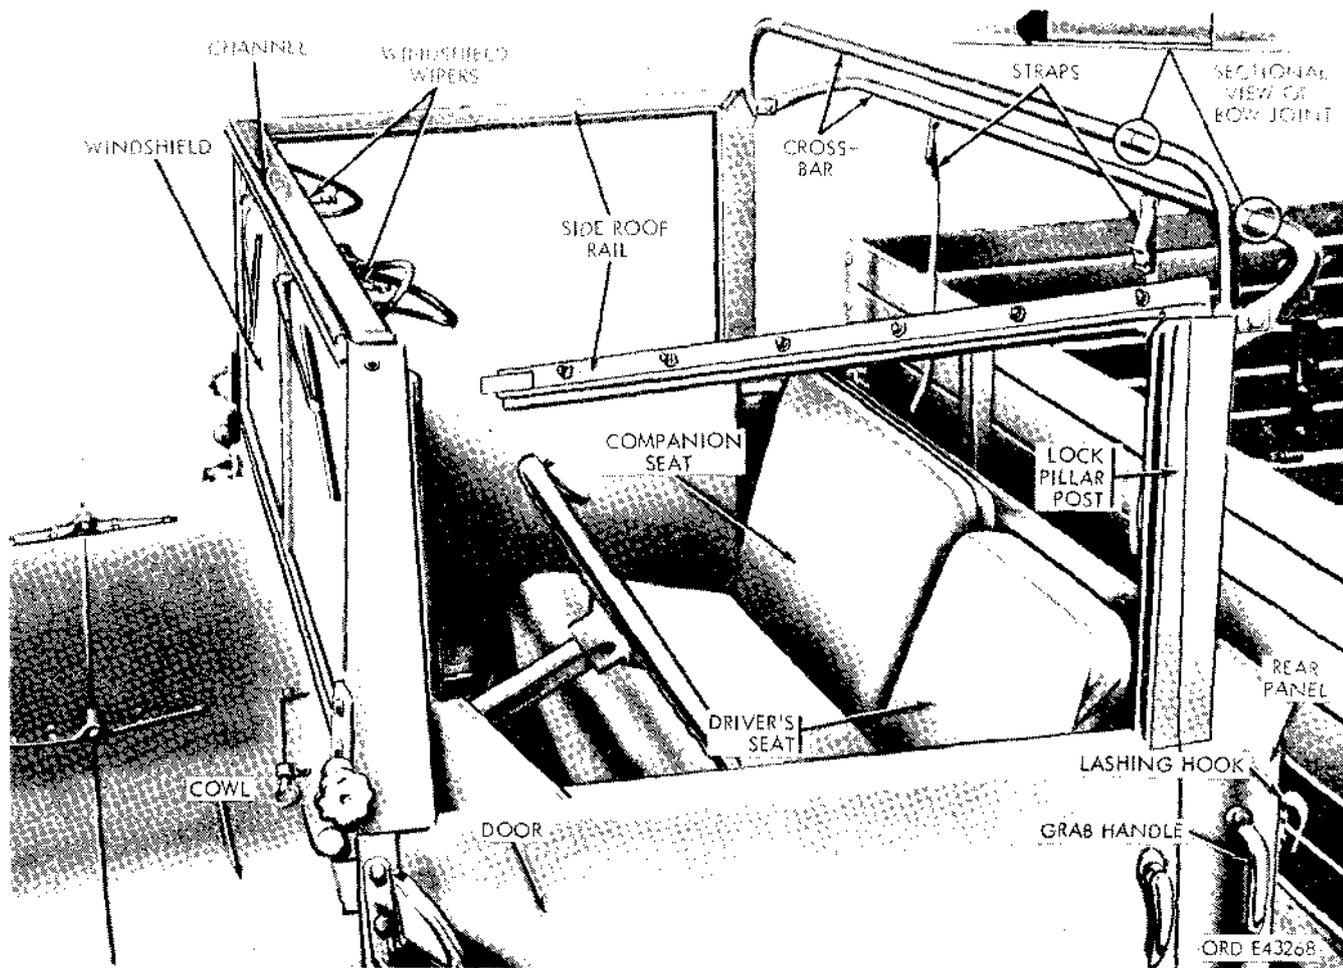

Figure 2-219. Cab with tarpaulin removed.
a. Removal (fig. 2-219).
- (1) Remove the cab top tarpaulin as described in TM 9-2320-211-10.
- (2) Disengage both cab roof rails from the windshield frame.
- (3) Turn the rails in and then down on the hinge at the lock pillar post.
- (4) Loosen the thumb screw at both pillar posts. Lift the pillar posts and bow assembly from sockets.
- (5) Remove the crossbars from the bows.
- (1) Strap the crossbars and pillar posts together with straps on the rear crossbar.
- (2) Stow the assembly in (1) above behind the cab seats.
c. Installation (fig. 2-219).
- (1) Insert the crossbars in bows so that the crossbar with straps is to the rear bow.
- (2) Position the pillar post assembly into sockets. Tighten the thumb screws on both sides.
- (3) Raise the cab roof rails and swing them around into position.
- (4) Engage the rail front ends into the upper corner slots of the windshield frame.
- (1) Disconnect the windshield wiper hose at the lower end of the wiper motor tubing.
- (2) Remove the eight nuts and bolts securing the windshield hinges to the cab.
- (3) Remove the windshield assembly from the vehicle.
b. Installation (fig. 2-219).
- (1) Position the windshield assembly to the vehicle, and secure the windshield hinge to the cab with eight bolts and nuts.
- (2) Connect the wiper hose to the wiper motor tubing.